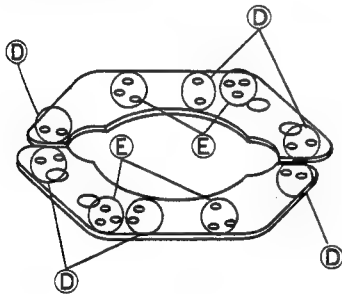

Fig. 2-9
3. Unsolder the upper drum board ass'y at the points of (E) and (D) (Fig. 2-9) and take out the board.